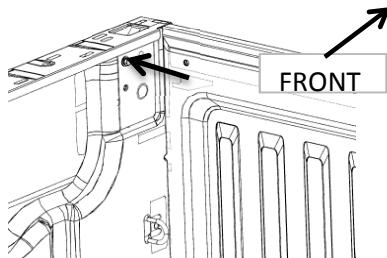

Fig. 3
- 3) Remove and discard front corner top bolt indicated in figure 3 as well as identical bolt on passenger side of pickup box.